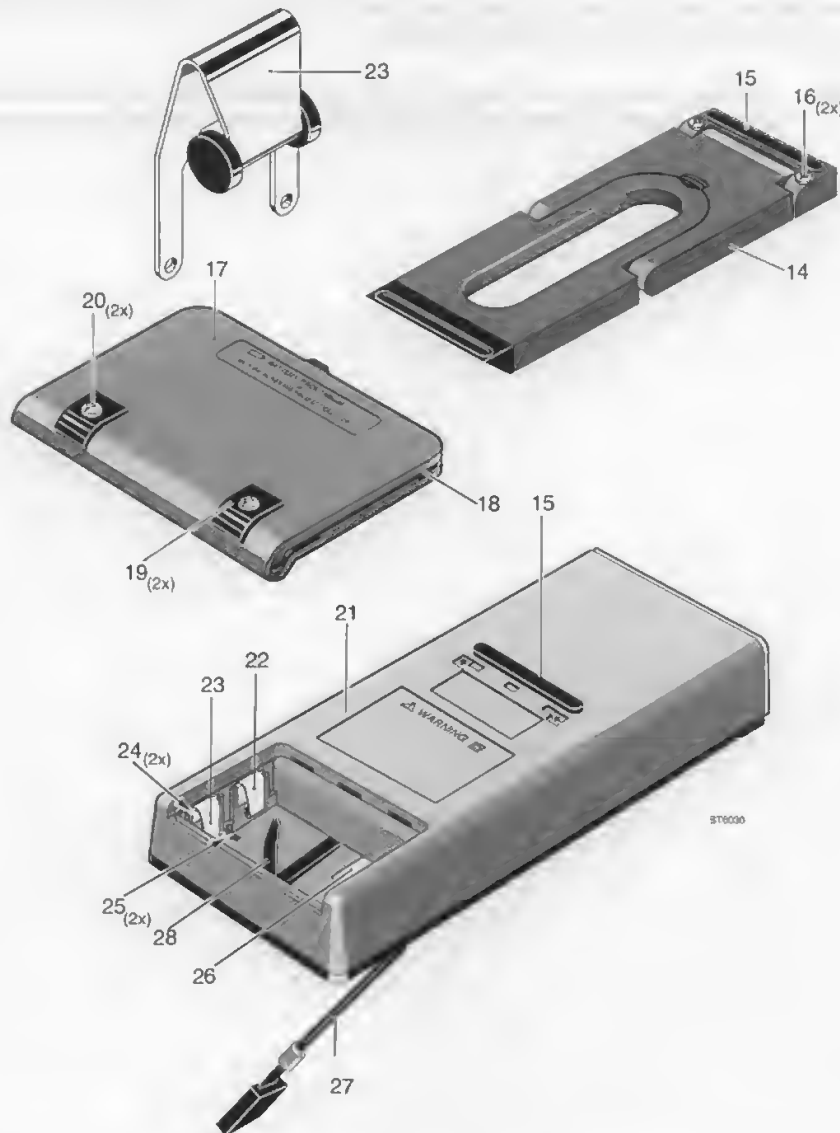

Figure 7.10 Replacing parts in battery compartment
Referring to figure 7.10, use the following procedure for replacements in the battery compartment.
Referring to figures 7.10 and 7.13, use the following procedure for replacing the battery wiring and battery contacts.
4. Bend the solder tags of the battery contacts (figure 7.10, item 23) in the bottom cover in such way that the contacts can be pulled out of the battery compartment.
5. Pull the battery contacts (figure 7.5, items 22 and 23) and the black buffers (figure 7.10, item 24) out of the battery compartment with a pair of tweezers.
NOTE: The extra black plastic buffers in two battery contacts (see figure 7.10, item 23) prevent erroneous charging of the battery. Mount these battery contacts in the correct position!
3. Bend the solder lugs of the contacts (figure 7.10, items 25 and 26) in the bottom cover so that the contacts can be pulled from the battery compartment.
Referring to figure 7.10, use the following procedure for stand replacement.
1. The stand is secured to the ScopeMeter with two black M3 Torx screws (figure 7.10, item 16). Use a Torx screwdriver to loosen the two screws.
1. Remove the stand assembly (figure 7.10, item 15).
2. The black M3 Torx screws are of a captured type (item 16). Remove screws by unscrewing them with a Torx screwdriver. Add a little pressure with another small screwdriver at the back of the screw.